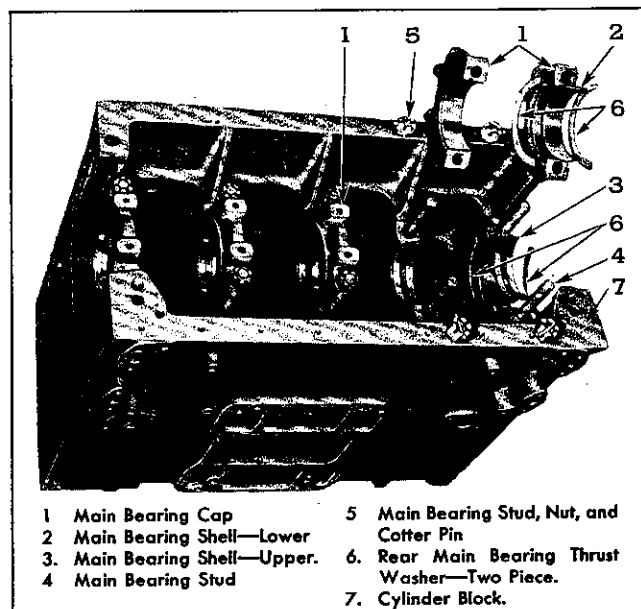

Fig. 1—Upper and Lower Main Bearing Shells, Bearing Caps, and Rear Main Bearing Thrust Washers.
Crankshaft thrust loads are taken by separate thrust washers at the rear main bearing. The upper halves of the main bearing shells are seated in the crankcase. The lower halves are held in place by the main bearing caps, each of which is bolted to the crankcase by two special steel studs, as shown in Fig. 1. Each half of the bearing shell is prevented from endwise or radial movement by a tang at the parting line on one side of the bearing. Each bearing cap is locked from sidewise movement by a milled slot in the crankcase.
**All Upper Halves of the Main Bearing Shells are alike**—These shells carry a circular groove midway between the bearing edges which runs from parting-line-to-parting line, and furnishes registration with the oil holes in the crankshaft journals at all times. An oil hole in this groove midway between the parting lines, as shown in Fig. 1, provides oil registry with holes in the cylinder block, by way of the bearing shells, to the drilled passages in the crankshaft leading to the various connecting rod bearings.